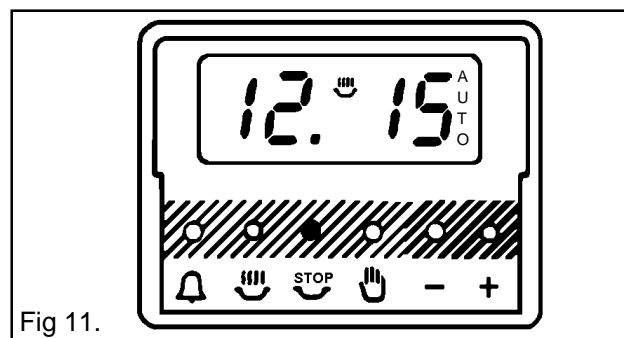

Fig 11.
- vi) To check the stop time during the cooking period, simply press the stop time button and the stop time (🕒) will be displayed. Fig.11.